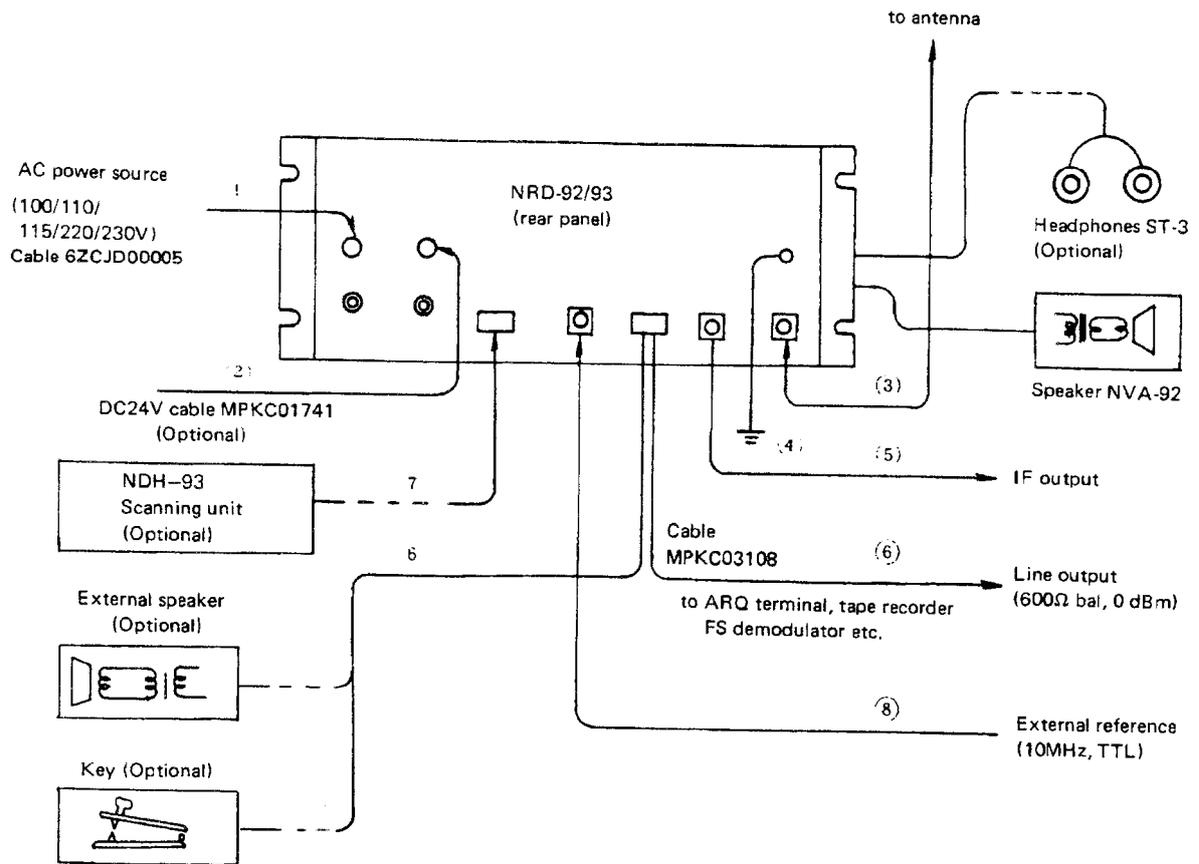

Fig. 3-3 External Connection
- (2) Connect the antenna cable to the **ANT** connector provided at the rear panel.
- (3) Connect the grounded wire to the terminal **E** on the rear panel.
- (4) Connect the **IF OUT** connector and the input connector of the external component by using the coaxial cable, when the IF output is to be used.
- (5) If the break-in relay circuit is to be used, connect the special cable (MPKC03108 or cable supplied with the console) to the **BK & LINE** connector. The AF output signal (600Ω/4Ω unbalanced speaker output, and 600Ω balanced line output) can be taken out from this connector. See Fig. 3-3 for details.
- (6) When the scanning unit (NDH-93, special order) is to be used, connect the cable supplied with the scanning unit to the **PRESET** connector.
- (7) When the external highly stable crystal oscillator is to be used, supply the output of the oscillator (10MHz, TTL level) to the **EXT 10MHz** connector and set the selector switch, S1, located on the rear panel to the **EXT** side (only NRD-93). Usually, since the built-in crystal oscillator is used, set this switch to the **INT** side.